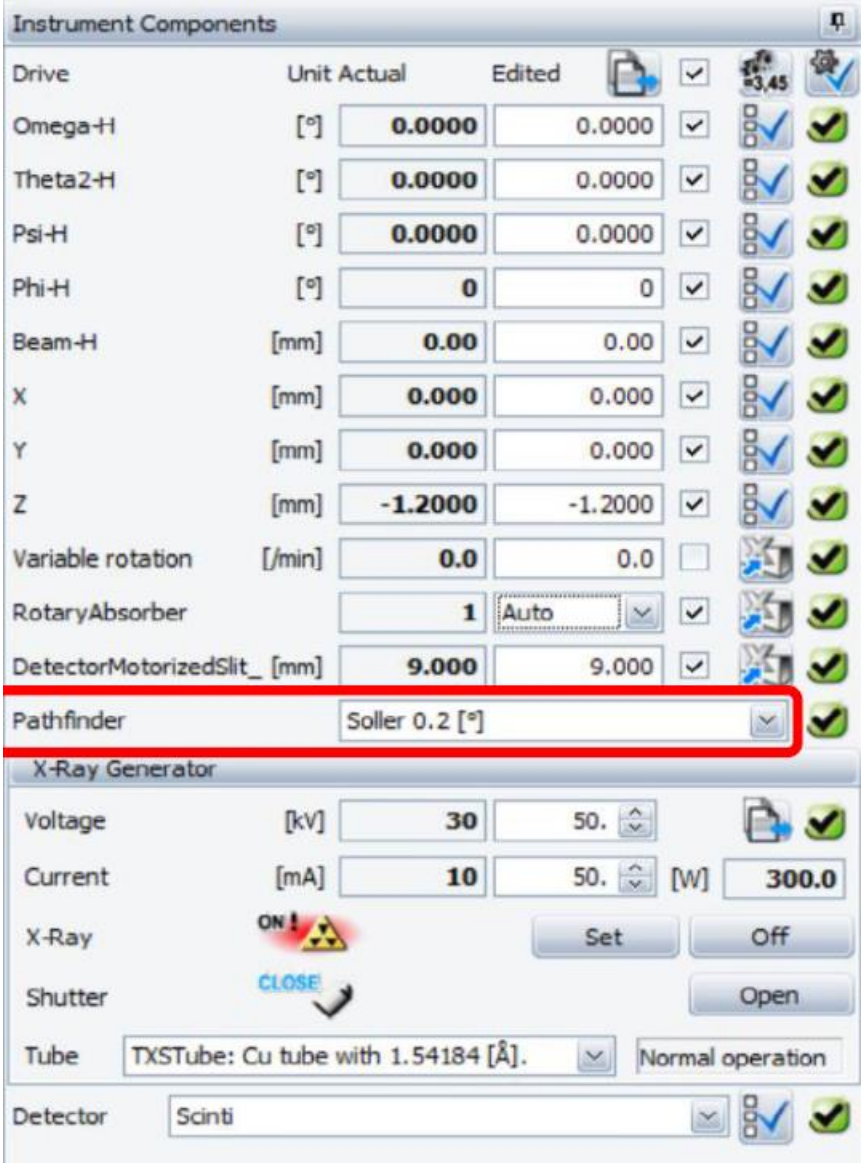

图6-18 GIXRD光路设置
6.9.1.2光路设置：Voltage/Current KV/mA（50/50），Z-axis = -1.2, Omega-H = 0, Theta2-H = 0, Psi = 0, Phi = 0, Beam-H = 0, X = 0, Y = 0, Rotary Absorber = Auto, DetectorMotor = 9, Pathfinder = Soller 0.2°, Detector = Scintillation（图6-18）；